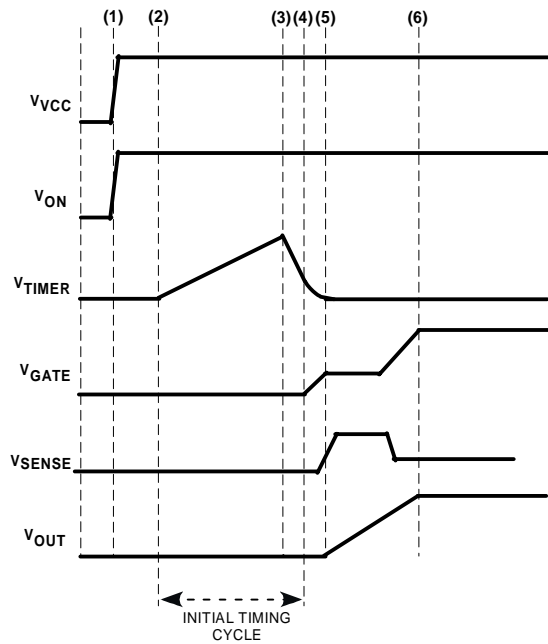

Figure 4. Start-up (ON asserts as power is applied)
When VCC is first connected to the backplane supply, there is an internal supply (time-point (1) in Figure 4) in the ADM1178 which needs to charge up. A very short time later (significantly less than 1 ms) the internal supply will be fully up and, since the undervoltage lockout voltage has been exceeded at VCC, the device will come out of reset. During this first short reset period the GATE pin is held down with a 25 mA pulldown current, and the TIMER pin is pulled down with a 100 μA current sink.
When the initial timing cycle terminates, the device is ready to start a hotswap operation (assuming ON pin is asserted). In the example shown in Figure 4, the ON pin was asserted at the same time as VCC was applied, so the hotswap operation starts immediately after time-point (4). At this point the FET gate is